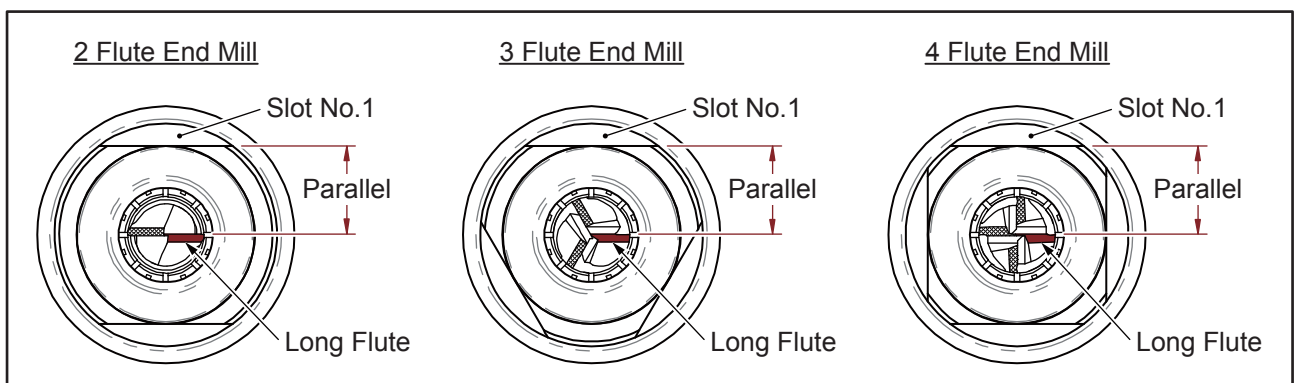
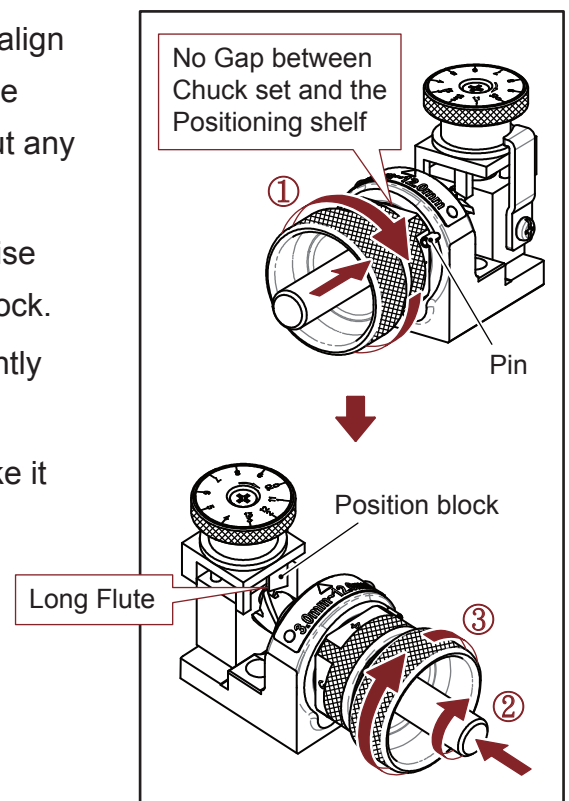

Fig. 5-4
Fig. 6-3
4. Turn the long flute of the End mill to be parallel with the Slot No.1 of the clamping nut. (Fig. 5-4)
3. End mill Positioning (Fig. 6-3)
- ① Insert the Chuck set into the Positioning shelf, align Slot No.1 of the clamping nut with the pin on the Positioning shelf, then connect it closely without any interval and turn it clockwise to the end.
- ② Push the End mill to the end and turn it clockwise until the long flute is blocked by the Position block.
- ③ Turn the collet holder clockwise and tighten lightly the Chuck set.
- ④ Rotate the Chuck set counterclockwise and take it out gently.
- ※ *Make sure the long flute must be parallel with Slot No.1 of the clamping nut (See page 10, Fig. 5-4), if it is not parallel, please operate again the entire positioning procedure.*